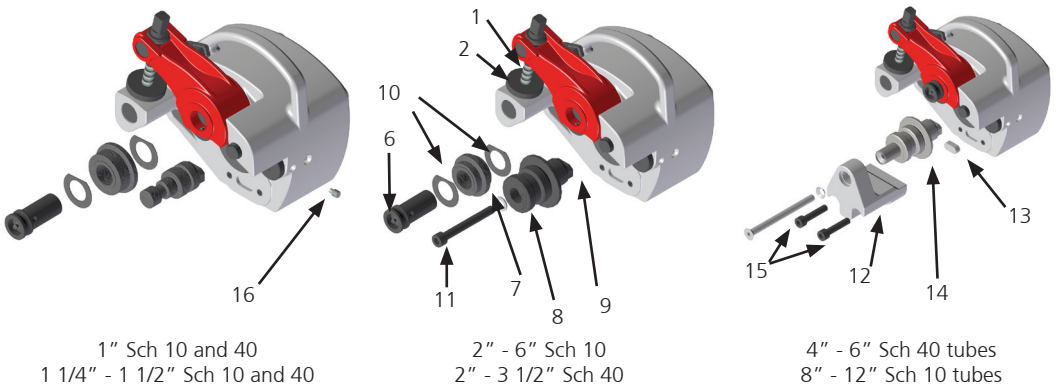

Figure 4
- On a workbench or on the floor, rotate the guide screw anti-clockwise to "lift" the upper roller (see figure 4, n.7) completely from the lathe screw (see figure 4, n.8).
- Loosen the fixing stud from the roller slide (see figure 4, n.9) and remove the roller shaft (see figure 4, n.6).
- Remove the upper roller and the adjusting washers (see figure 4, n.10) from the roller slide.
- Loosen the screw from the lathe screw (see figure 4, n.11).
- If the new lathe screw is for 1 or 1¹/₄ - 1¹/₂ inch tubes, secure it by tightening the screw (see figure 4, n.16).
- If the new lathe screw is for 4 to 6 inch Sch 40 tubes, or 8 to 12 inch Sch 10 tubes (see figure 4, n.14), place the lathe screw support (see figure 4, n.12) and secure it by using the pin as a guide (see figure 4, n.13) and tightening the screws (see figure 4, n.15).